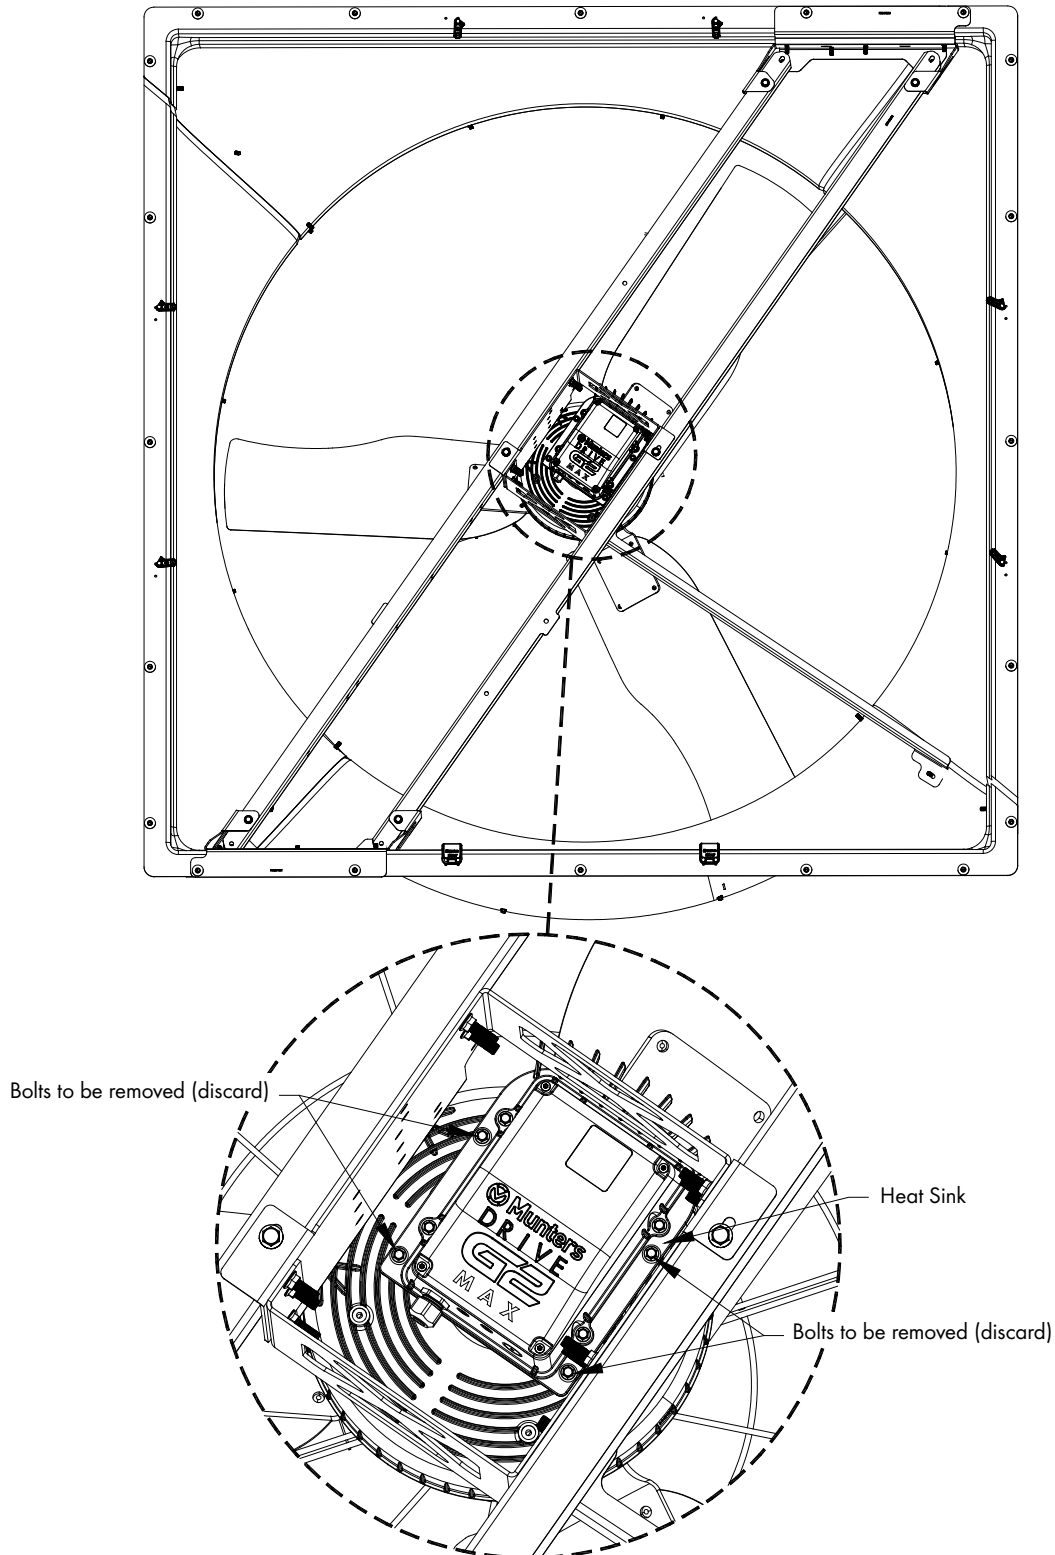

Figure 6
Remove the (4) bolts holding the Heat Sink with Control Box to the back of the Munters Drive Motor and carefully set the Heat Sink with Control Box in fan. See Figure 6. Discard the (4) bolts removed.